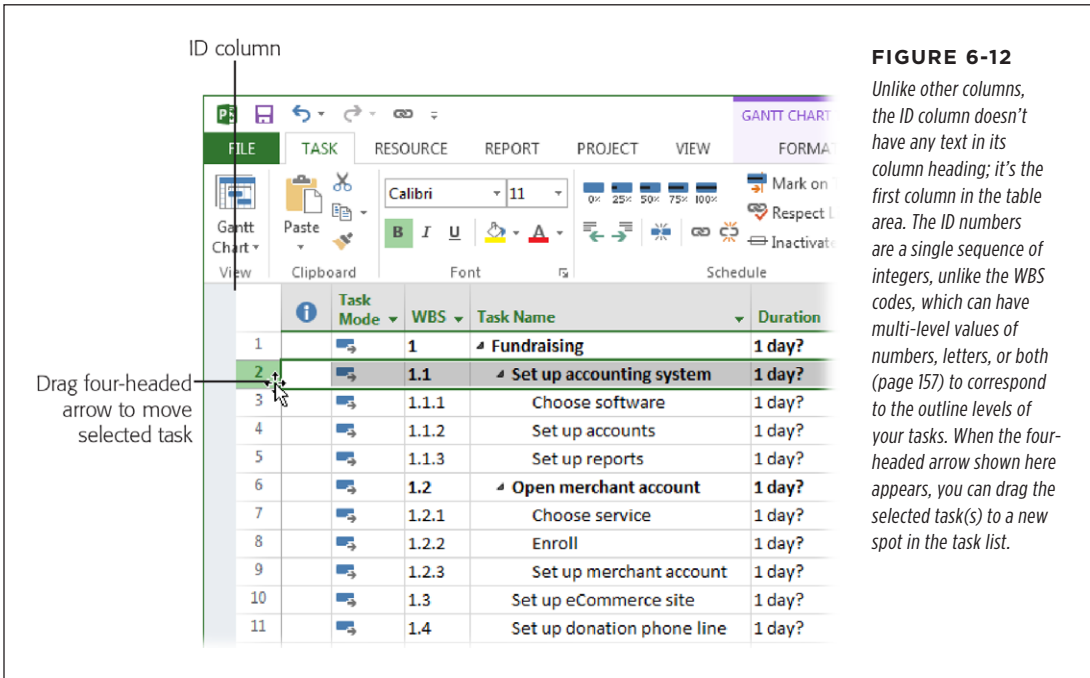

FIGURE 6-12
1. **In Gantt Chart view's table area, select the entire task you want to copy by clicking its *ID cell*, as shown in Figure 6-12.**